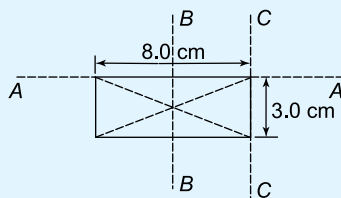

Figure 9.19
- Determine the second moment of area and radius of gyration for the rectangle shown in Figure 9.19 about (a) axis AA (b) axis BB , and (c) axis CC .